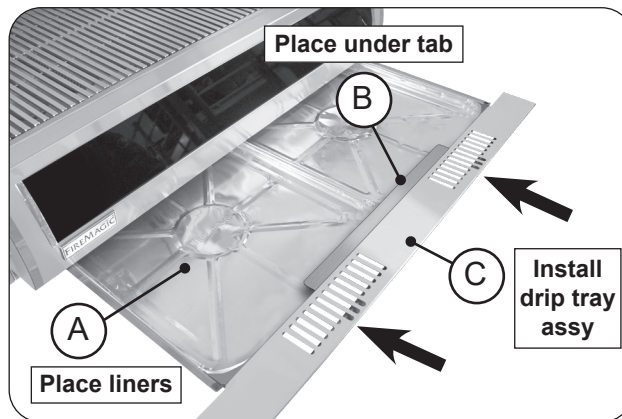

Fig. 35-1 Install drip tray
- Place the liners (Fig. 35-1, A) underneath the tab at the front portion of the drip tray (Fig. 35-1, B)
2. Fully insert the drip tray with liners into the bottom front opening of the electric grill (Fig. 35-1, C).